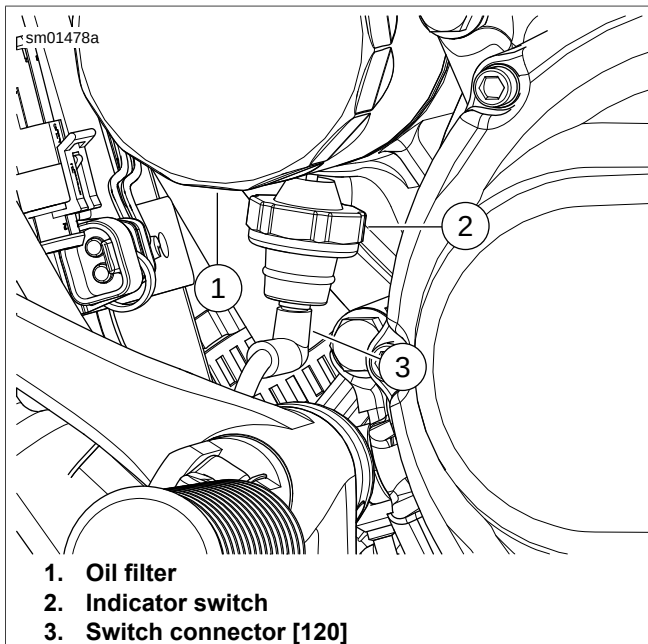

Figure 3-2. Oil Pressure Indicator Switch
1. See Figure 3-2. Detach wiring from oil pressure indicator lamp switch (2).
2. See Figure 3-2. Coat threads of oil pressure switch (2) with LOCTITE 565 PIPE SEALANT with TEFLON. Replace the oil pressure switch. Using OIL PRESSURE SENDING UNIT WRENCH, tighten switch snugly. DO NOT OVER-TIGHTEN.
3. Plug in connector [120] (3) by pushing elbow connector straight up onto stud on oil pressure switch.